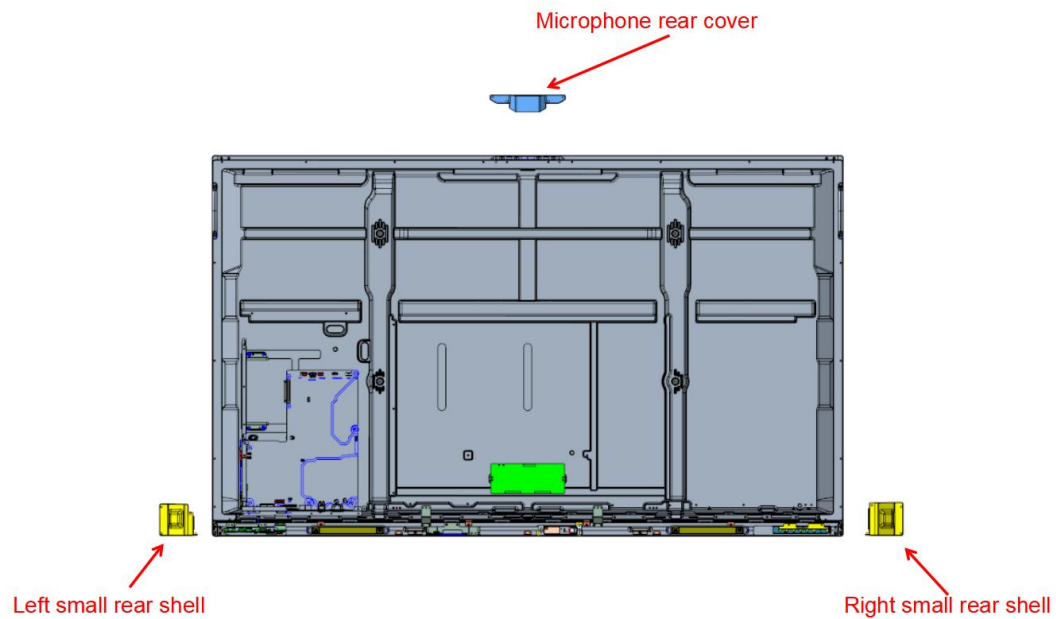

Figure 6
STEP 4: Disassemble the Left rear shell and Right small rear shell by hand. As shown in Figure 6.